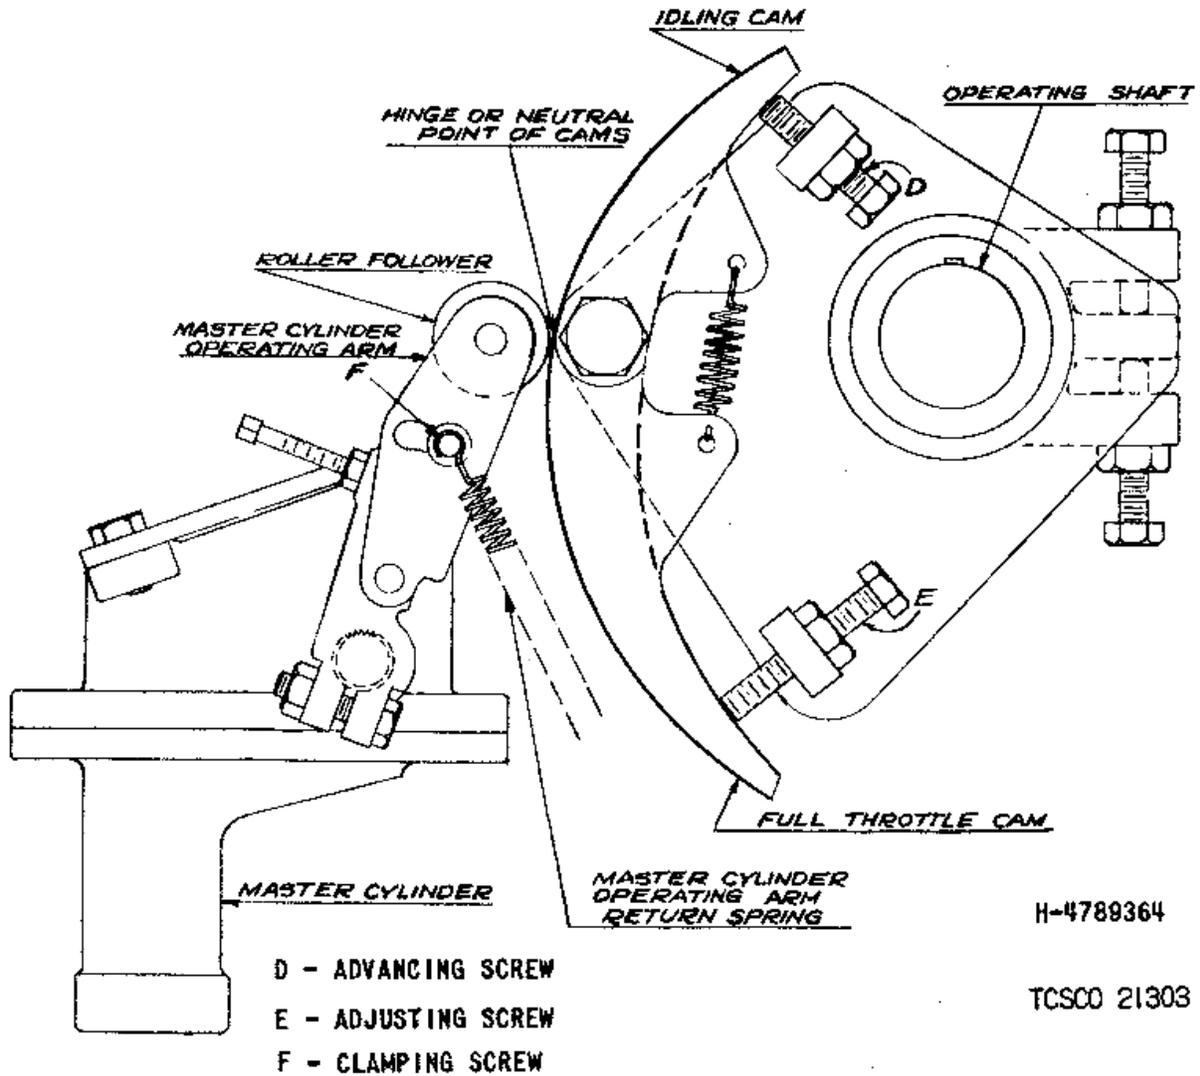
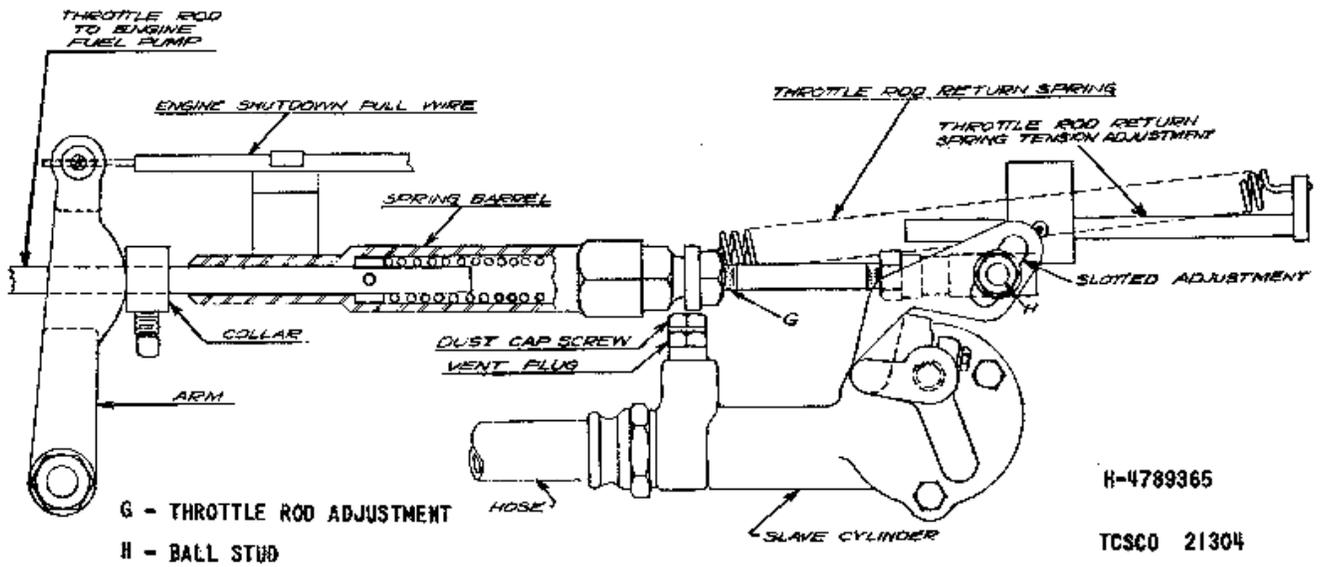
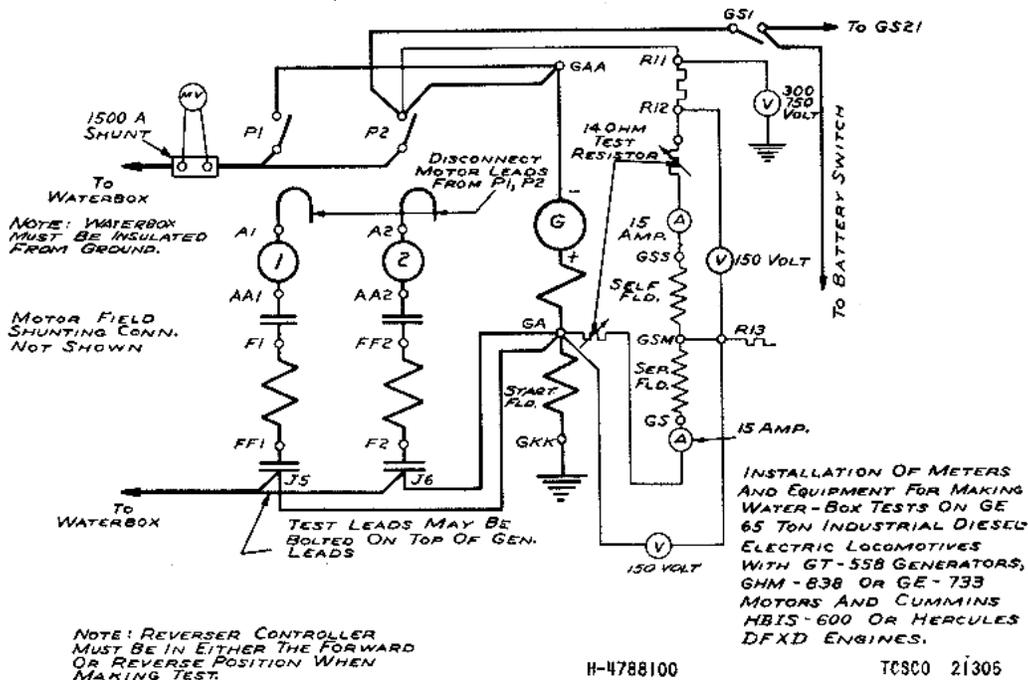

Figure 4. Master cylinder and cam arrangement used in hydraulic throttle control.
Figure 5. Slave cylinder and throttle rod arrangements used in hydraulic throttle control.
Figure 7. Installation of equipment for water box tests.
- (3) Open the vent plug about 2 turns and allow approximately one-half gallon of the brake fluid to flow through the system. Stroke the master cylinder operating arm at intervals during this time, always returning it to the off end of its travel. Then close the vent plug and repeat the same operation on the other end of the locomotive.
- (4) After venting both ends, remove the test equipment and restore original reservoir filler cap and slave cylinder dust cap screws.
a. It is important that the engines idle at speeds that are high enough to allow the auxiliary generators to charge the batteries. For proper operation of the throttle system, it is also necessary that both the master and slave cylinders are at the extreme retracted or off end of their travel. In this position, both cylinders should be firm against internal stops. Be sure that the master cylinder operating arm clears the idling cam by at least one-thirty-second inch when the throttle handle is in the idle notch and the master cylinder is back against its internal stop (fig. 4).
b. Start with the ball stud H (fig. 5) set approximately in the center of the slotted adjustment. Then adjust the length of the throttle rod at G to obtain the following idling speeds for 65-ton locomotives
- (1) Install test meters and equipment in accordance with figure 7 and provide a tachometer to read engine speed. The tachometer shaft rising vertically from the distributor assembly on the diesel engine fuel pump is a convenient place to apply the ta-
- (2) Take a full load curve for each generator, using a water box as load. For each curve, record generator voltage, load current, speed, and sufficient field voltage and current to indicate field resistance during test. (3) Before proceeding, see that the fuel control lever on the diesel engine fuel pump is tight against the full stop when the throttle handle is in the full throttle position. If not, advance the full throttle cam (fig. 4) and recheck until it is tight. b. Insert test resistors as shown on figure 7 in the self and separately excited field circuits to provide equivalent resistances to those encountered in service with a warm generator. Adjust the resistors to obtain the following values:
Connect an 0-300/750 volt voltmeter (using the 0-300 volt scale) between R11 and ground as shown on figure 7. This will read generator voltage. Do not operate the locomotive at full throttle with this meter connected, since the generator voltage may be higher than 300, resulting in possible damage to the meter. Provide a tachometer to read engine speed. The tachometer connection rising vertically from the distributor assembly on the diesel engine fuel pump is a convenient place to apply the tachometer and is exposed by removing the dust cap. This shaft rotates at one-half engine speed.
- (3) With the engines shut down, place the throttle handle at the point where the first step of separate excitation resistance has been added (4 1/16-in. ± 1/4-in. up the quadrant), then rotate the operating cams by means of adjusting screws A until the roller follower falls on the hinge or neutral point between the two halves of the cam as shown on figure 5.
- (4) Make sure the engines are in operating condition, then start the one that is to be checked first, set the brakes so the locomotive cannot move, bring the throttle handle up to the first running position (all throttle switch fin-
- (5) The generator load at this point should be 600 amps., 18+3 volts at 510+25 rpm. engine speed. If the engine speed is high at the first running position, reduce the idling speed 5 to 10 rpm and recheck. If the load is high, increase the resistance of generator field resistor R13-1114 or R23-R24. If speed or voltage is low, follow the reverse procedure.
- (6) The first running position load may be checked either by loading the generator on the stalled traction motors as described above or by loading it on a water box in which case connections may be made as shown on figure 7. This adjustment will have effect on lower throttle handle positions (up to the point where the first step of separate excitation resistance is added).
- (7) Partial throttle adjustments at the point where the first step of separate excitation resistance is added and higher should be made with the locomotive connected to a water box. The load setting corresponds to the current and voltage that would be obtained if the generator was loaded on stalled motors; however, the load is somewhat too high to be held on stationary motors for a long enough time to be able to obtain a satisfactory reading and, in addition, the brakes could not hold the locomotive at standstill.
- (8) If the traction generator is connected to a water box, make adjustments as described below:
- If speed and load are low, increase the engine fuel setting by advancing the master cylinder jointed operating arm (fig. 4). Increasing the resistance of generator field resistor R14-R15 by moving the sliding band R15 only, will also help to correct this condition. This permits the engine speed to rise, which in turn will increase the generator voltage for the given current (880 amps.). If speed and load are high, follow the reverse procedure.
- (9) DO NOT ATTEMPT TO MAKE ANY ADJUSTMENTS WHILE HOLDING THIS LOAD. Return the throttle handle to the idle position, make any changes that may be required, then recheck the load.
- (10) After obtaining a satisfactory setting, return the throttle handle to the idle position and advance the idle cam to within onethirty-second inch of touching the roller follower. Make this adjustment by advancing screw D (fig. 4). THE ROLLER FOLLOWER MUST CLEAR THE CAM WHEN THE THROTTLE HANDLE IS IN THE IDLE POSITION.
- (11) With the engine running without load, place the throttle handle in the full throttle position and see that the fuel control lever on the diesel engine fuel pump comes up against the full fuel stop. The spring in the spring barrel (fig. 5) should be compressed one-sixteenth to one-eighth inch under these conditions. If not, advance or retract, as required, the full throttle section of the operating cams by means of adjusting screw E (fig. 4) until the desired results are obtained. If adjustments to equalize the load distribution are made without the benefit of a water box, the above procedure should be observed except it is desirable to operate
- e. After completing adjustments for each end of the locomotive, check the entire throttle system to be sure all locking devices are tight and that all lock-washers are in place, particularly clamping screw F (fig. 4).
- f. Place the throttle handle in the full throttle position, see that the fuel control lever on the diesel engine fuel pump is against the full fuel stop screw, then locate the collar on the throttle rod to clear the engine shutdown operating arm by approximately one-sixteenth inch (fig. 5). Do this with the operating arm at its extreme forward position (toward the fan end of the engine), then tighten the set screw clamping the engine shutdown pull wire in the arm. Start the engines and see that they will shut down from idling speed when the engine shutdown knob in the operator's cab is pulled.